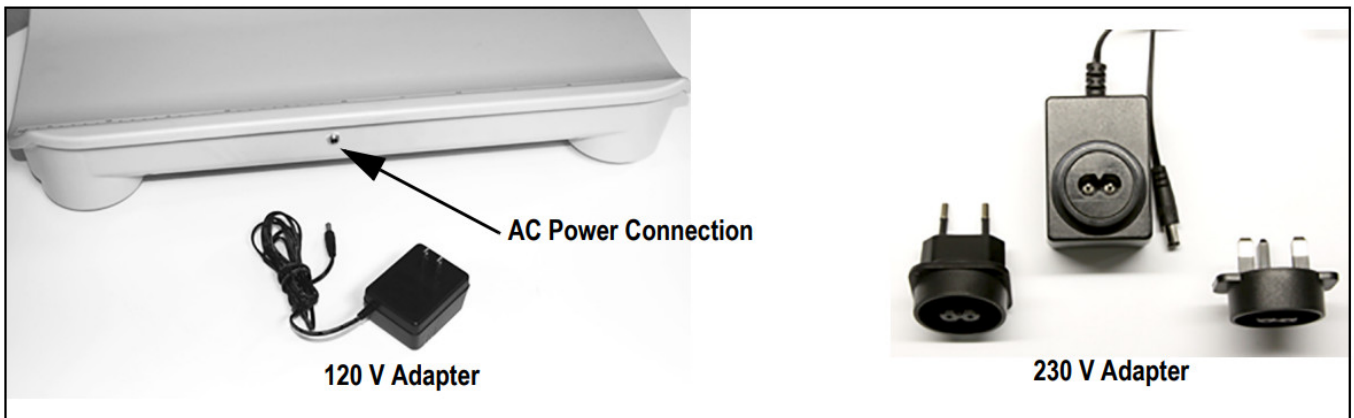

Figure 2-1. AC Power Connection Site
1. Plug AC adapter cable into the back of the scale (Figure 2-1 on page 2) and the AC adapter plug into a power source.